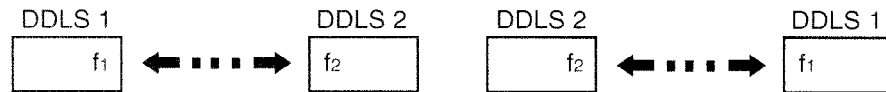

Fig. 37 Consecutive paths
- For consecutive data transmission paths in accordance with Fig. 37.